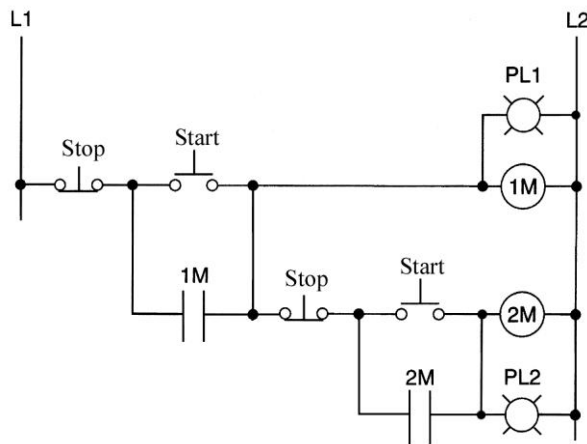

Figure 6-33 Hardwired circuit for assignment 9.
9) The hardwired interlocking circuit of two motors shown in Figure 6-33 can be programmed using a PLC. The application requires that motor No. 2 cannot be started unless motor No. 1 is running. Prepare an I/O connection diagram and ladder logic program for the circuit. Enter the program into the PLC, and prove its operation.